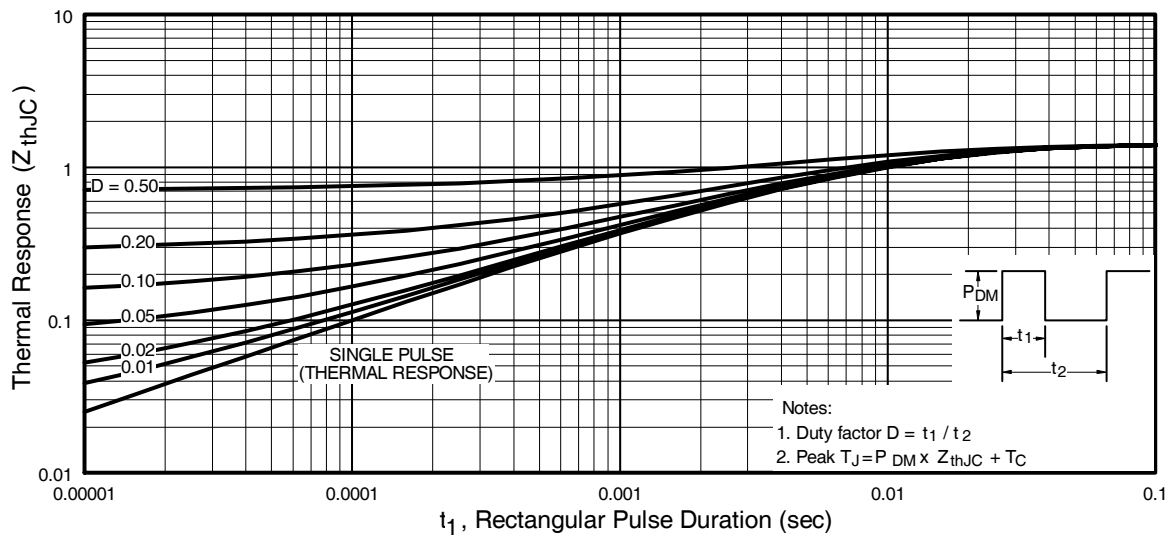

Fig 11. Maximum Effective Transient Thermal Impedance, Junction-to-Case
① Repetitive rating; pulse width limited by max. junction temperature. (See fig. 11)
② $V_{DD} = 25V$, starting $T_J = 25^\circ\text{C}$, $L = 470\mu H$